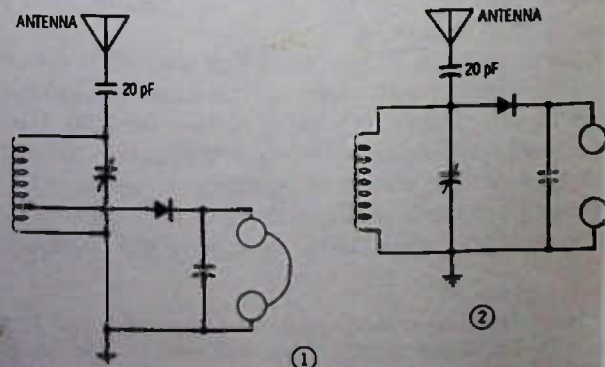

Fig. 4-7. Schematic for Question 8.
8. In Fig. 4-7, which of the two crystal-set circuits would you expect to tune sharper (be more selective)?